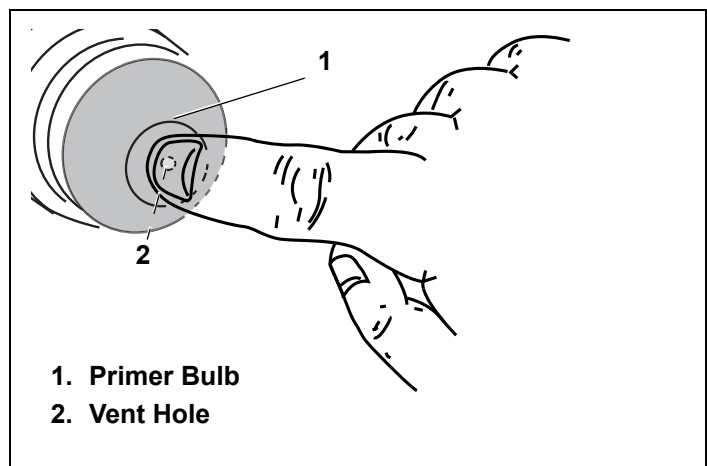

Figure 14. Pressing Primer Bulb
3. When starting a cold engine, press primer bulb firmly 3 times, allowing primer bulb to return completely to original position between pushes. See Figures 14 and 15. Afterward, continue reading instructions below.
Be sure to cover vent hole when pressing primer bulb. See Figure 14.